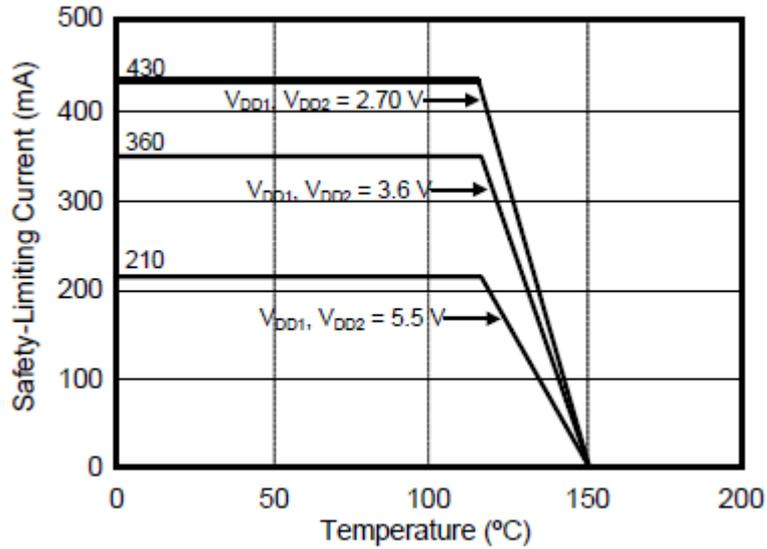

Figure 3. (NB SOIC-16) Thermal Derating Curve, Dependence of Safety Limiting Values with Case Temperature per DIN EN 60747-5-2
1. Maximum value allowed in the event of a failure; also see the thermal derating curve in Figures 3.